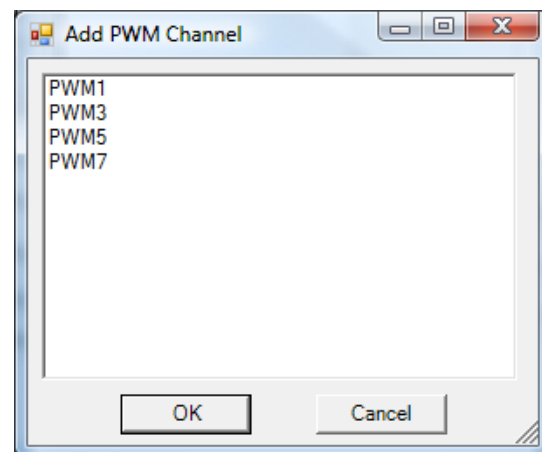

Figure 46 - Add PWM Channel Window
6. In the ADD PWM dialog, select the channels to install. To select multiple PWM channels, hold the CTRL key while clicking on the channel. Refer to Figure 46.
- In the ADD PWM dialog, select the channels to install. To select multiple PWM channels, hold the CTRL key while clicking on the channel. Refer to Figure 46.